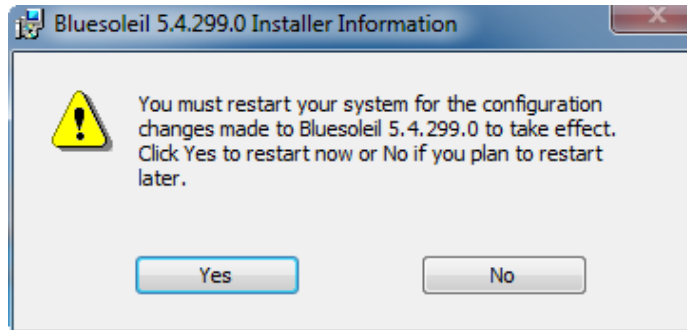

Figure 8-46: Reboot the Computer
Step 13: The user is then prompted to select to restart the computer now or later (**Figure 8-46**). For the settings to take effect, the computer must be restarted.